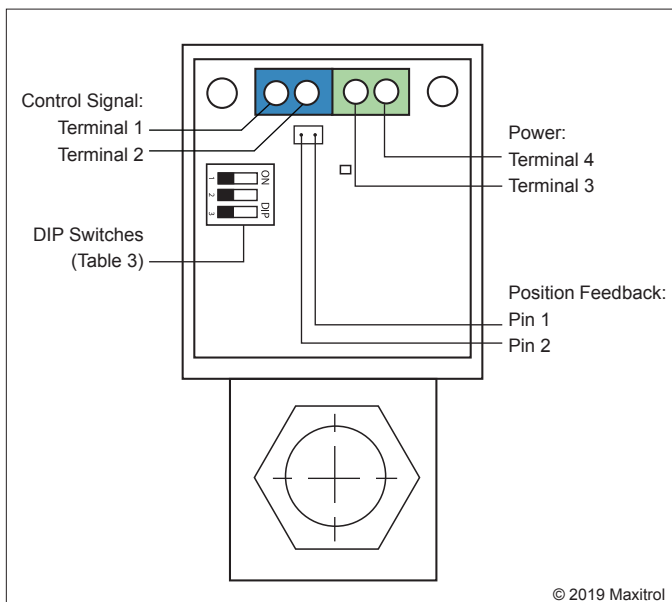

Figure 2: EXA Modulating Valve Series Connections
There are six (6) electrical connections on the EXA valve. Two (2) are for power, two (2) are for the control signal, and two (2) are for position feedback (see figure 2, page 2).
A three (3) position DIP switch is located on the PCB (see Figure 2). Change the signal type and offset by changing the position of DIP switches. (For DIP switch position and corresponding current/voltage ranges, see Table 3).
(see Figure 2)
- Step 3: Connect switched OFF 24V (AC/DC) power source to terminals 3 and 4. Note polarity when using a DC power source or if one leg of an AC transformer secondary is externally grounded or is sharing power with another half-wave device (see figure 2, page 2).
- Step 5: Connect control signal to terminals 1 and 2. Observe polarity. Note that the return, or signal ground, must be connected to terminal 2 (see figure 2, page 2).